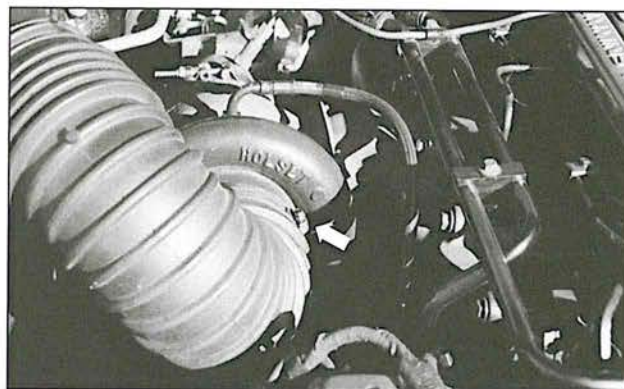

Fig. 1
- Use a screwdriver to loosen the clamp and disconnect the large plastic duct that connects the air filter box to the turbocharger at the turbocharger end (see Fig. 1).